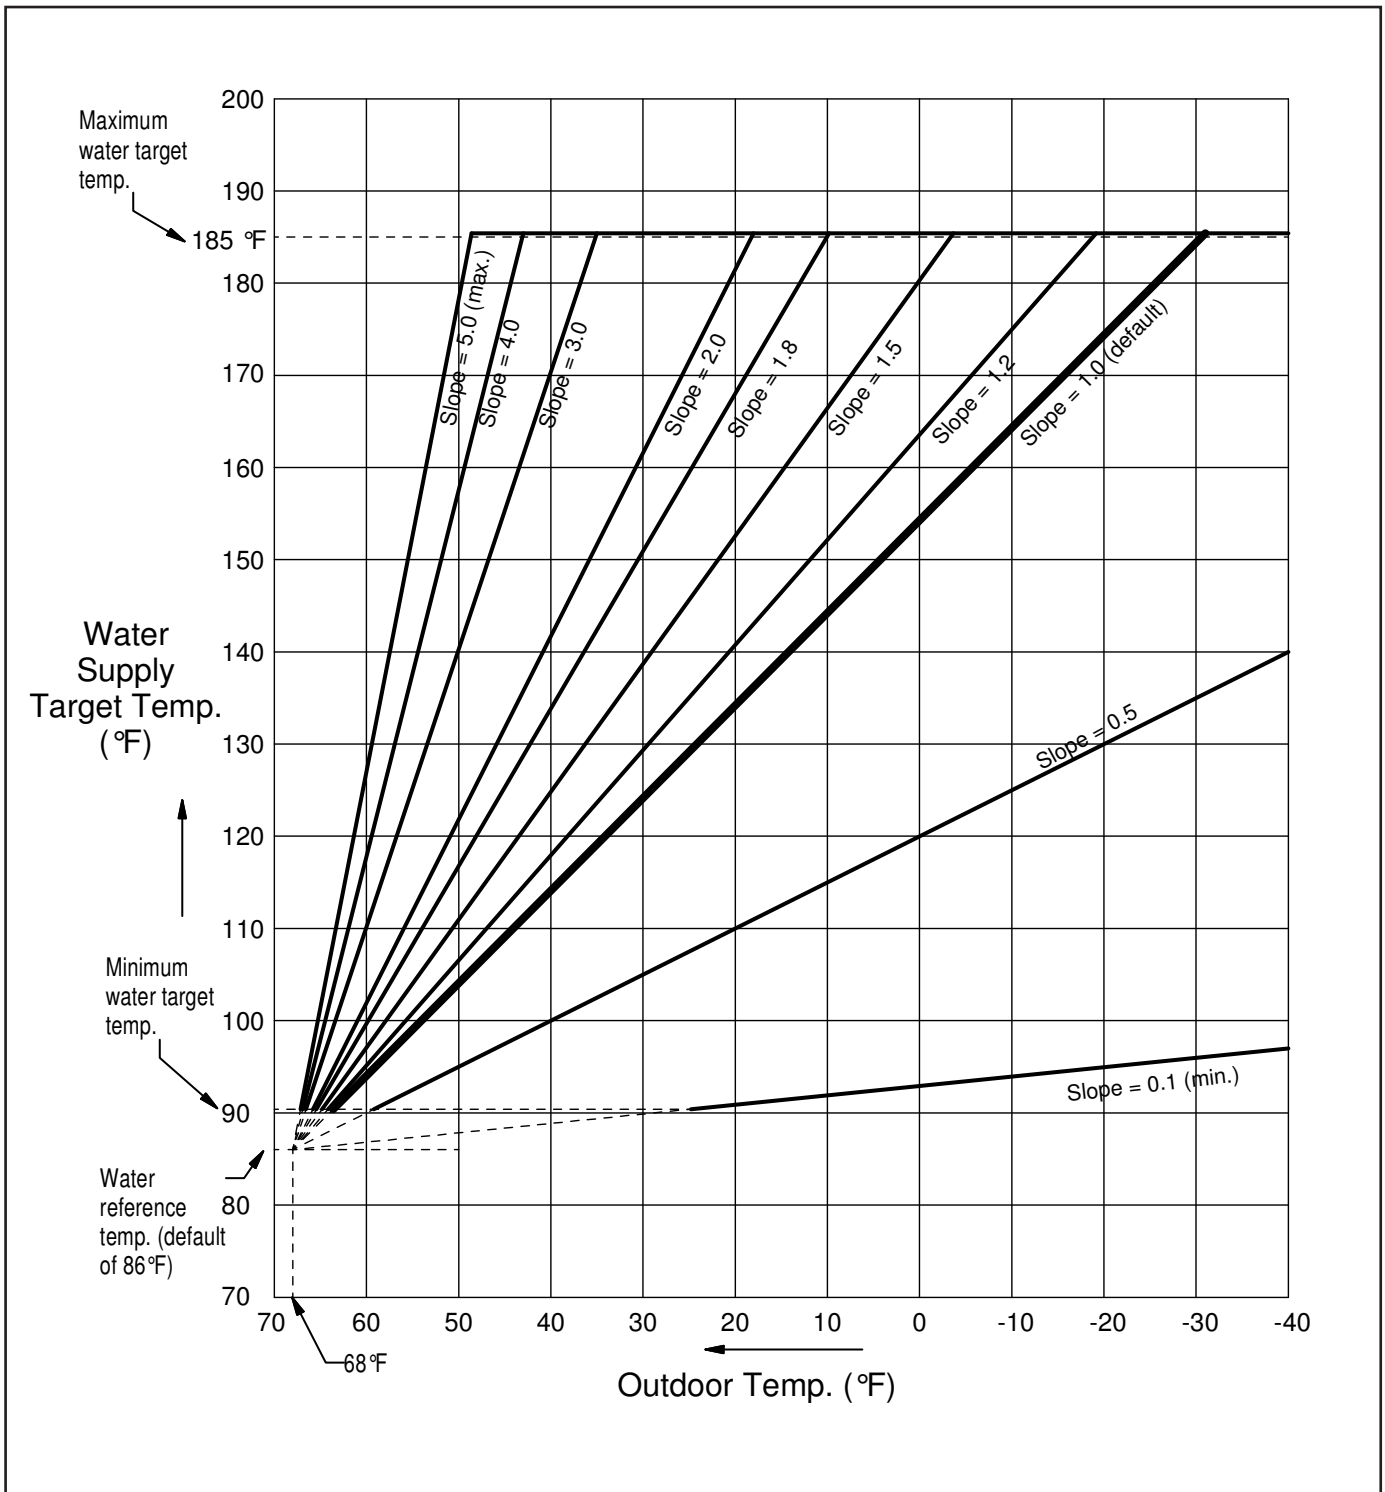

Figure 23. Space Heating mode with outside sensor water set point graph.
II. BOILER CONTROL AND DISPLAY FEATURES (See Figure 23)
3. Weather compensation slope and set point temperature may be changed (if outside sensor is used). (See Figure 23 for graph).